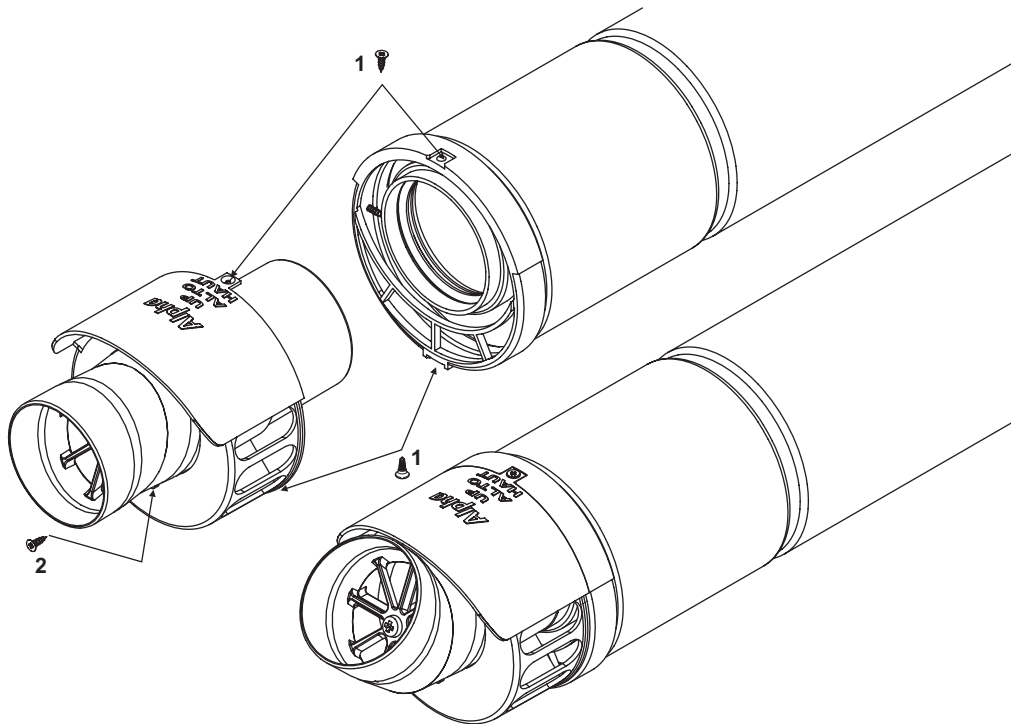

Fig. 4.11
- i. Remove the screws (1 in Fig. 4.11) securing the terminal and remove the terminal by pulling it from the flue assembly. Remove the screw (2 in Fig. 4.11) securing the terminal end section and remove the end section from the terminal.
- iii. Connect to the 93° bend the required Plume Management components as detailed and refer to Fig. 4.11.